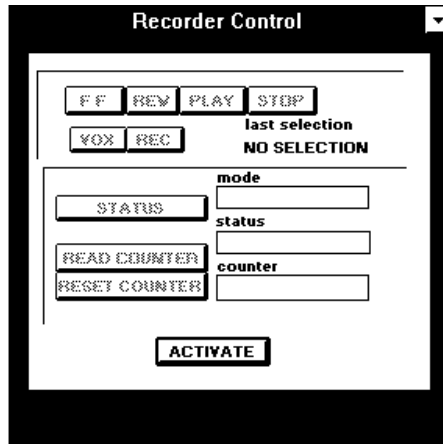

Figure 5-19: Recorder Control Dialog Box
1. Click **Control** on the Main Menu Bar and then **Tape Recorder** to open the Recorder Control dialog box (Figure 5-19).